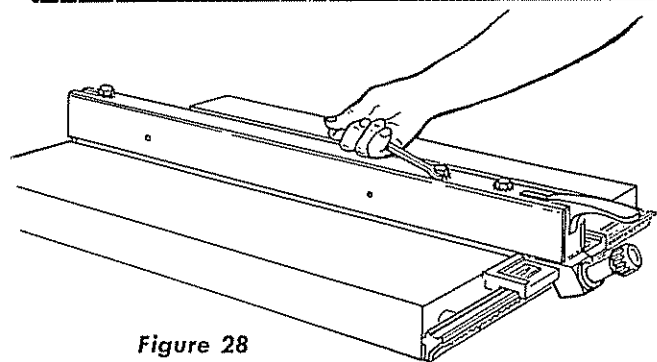
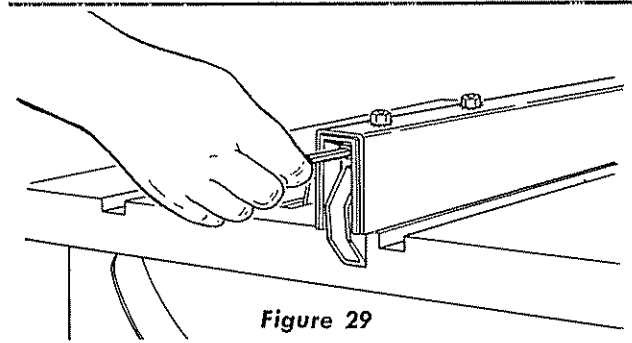

Figure 28
Figure 29
- (7) Check for correct alignment with saw table groove for the full length of the fence. If it is aligned at the front but out of alignment at the rear, loosen the two hex-head screws on top of the channel near the front (figure 28) just enough to permit the channel to slip when tapped lightly with the palm of one hand. Tap the channel at the rear of the fence with one hand until it is aligned with the table groove. Tighten the two hex-head screws securely and recheck. More than one trial may be required, as tightening the screws may change the setting slightly.
- (8) Check for "automatic correcting" by releasing the lock lever, shifting the fence off square at the rear, then locking it. The fence should square itself automatically and be flush (parallel) with the miter groove each time the handle is locked down.
- (9) Lock the fence with the lock handle, and, using a 5/32-inch hex-L wrench, tighten the fence lock set screw at the rear, hand tight only. (See figure 29.) Make sure the fence is "secure" to the table at the rear.